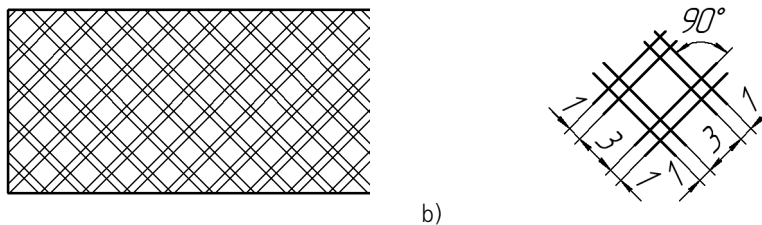

Fig. 8.14. Insulating Layer hatch style:
**3.7.1** Create a hatch style **Insulating Layer** (Fig. 8.14). Hatch line style – Thin.